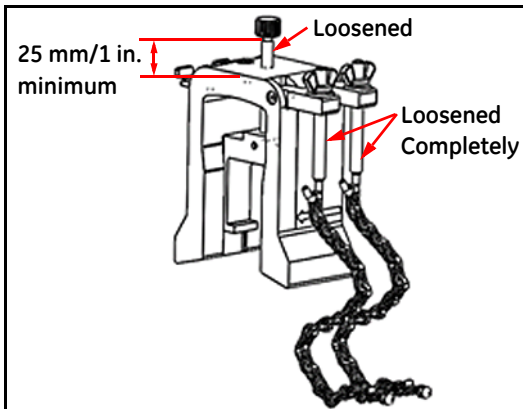

Figure 25: Loosened Yoke Screw and J-Hooks
1. Loosen the yoke screw at least 25 mm/1 in. (all the way for pipes <50 mm/2 in.) and loosen the J-Hooks all the way (see *Figure 25* below).
1. Loosen the yoke screw at least 25 mm/1 in. (all the way for pipes < 50 mm/2 in.) and loosen the J-Hooks all the way (see *Figure 25* below).